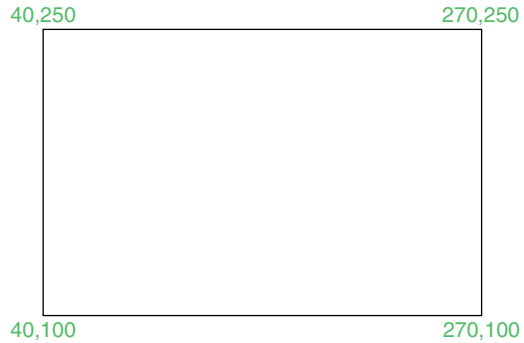

Fig. 2.29 Exercise 1
1. Using the **Line** tool construct the rectangle in Fig. 2.29.